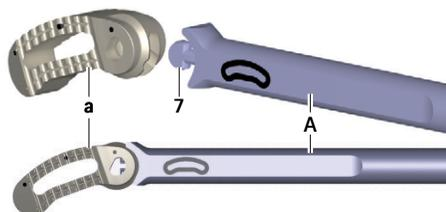

Fig. 7 Coupling the implant to the insertion instrument
- ▶ Mount the implant a in the protective packaging onto the dihedron 7 of the insertion instrument A, see Fig. 7. When doing so, pay attention to the orientation of the implant (orientation according to the marking on the insertion instrument).
- ▶ Couple insertion instrument **A** to implant **a** in situ, see Fig. 7.